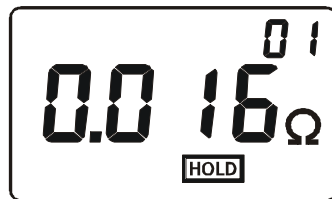

Figure 9
*As indicated in Figure 9, lock the measured resistance 0.016Ω, and save it as data unit No.1.